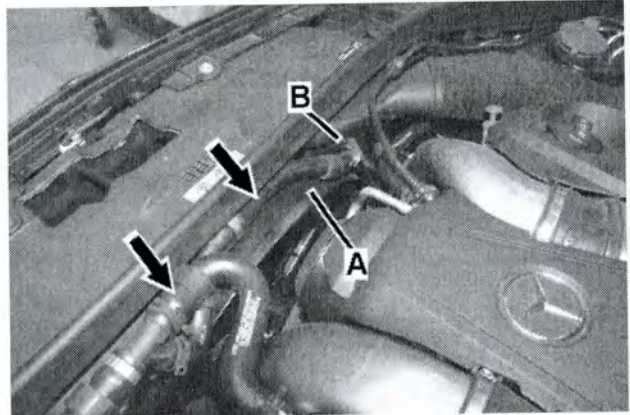

Figure 6
- Re-attach coolant line (arrows, Figure 6) back to its original mounting position on the radiator fan shroud (A) after installing new radiator fan.